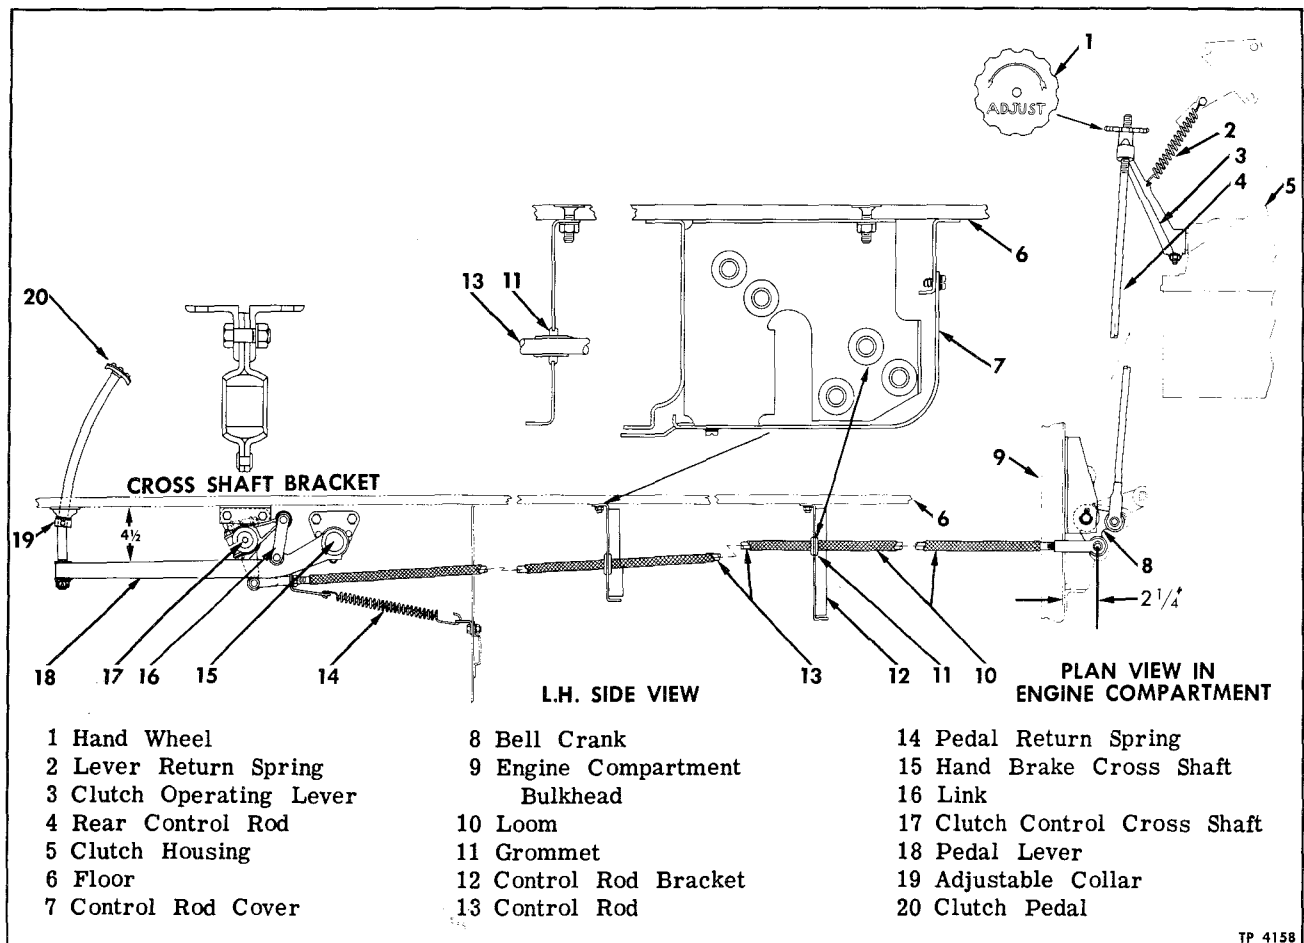
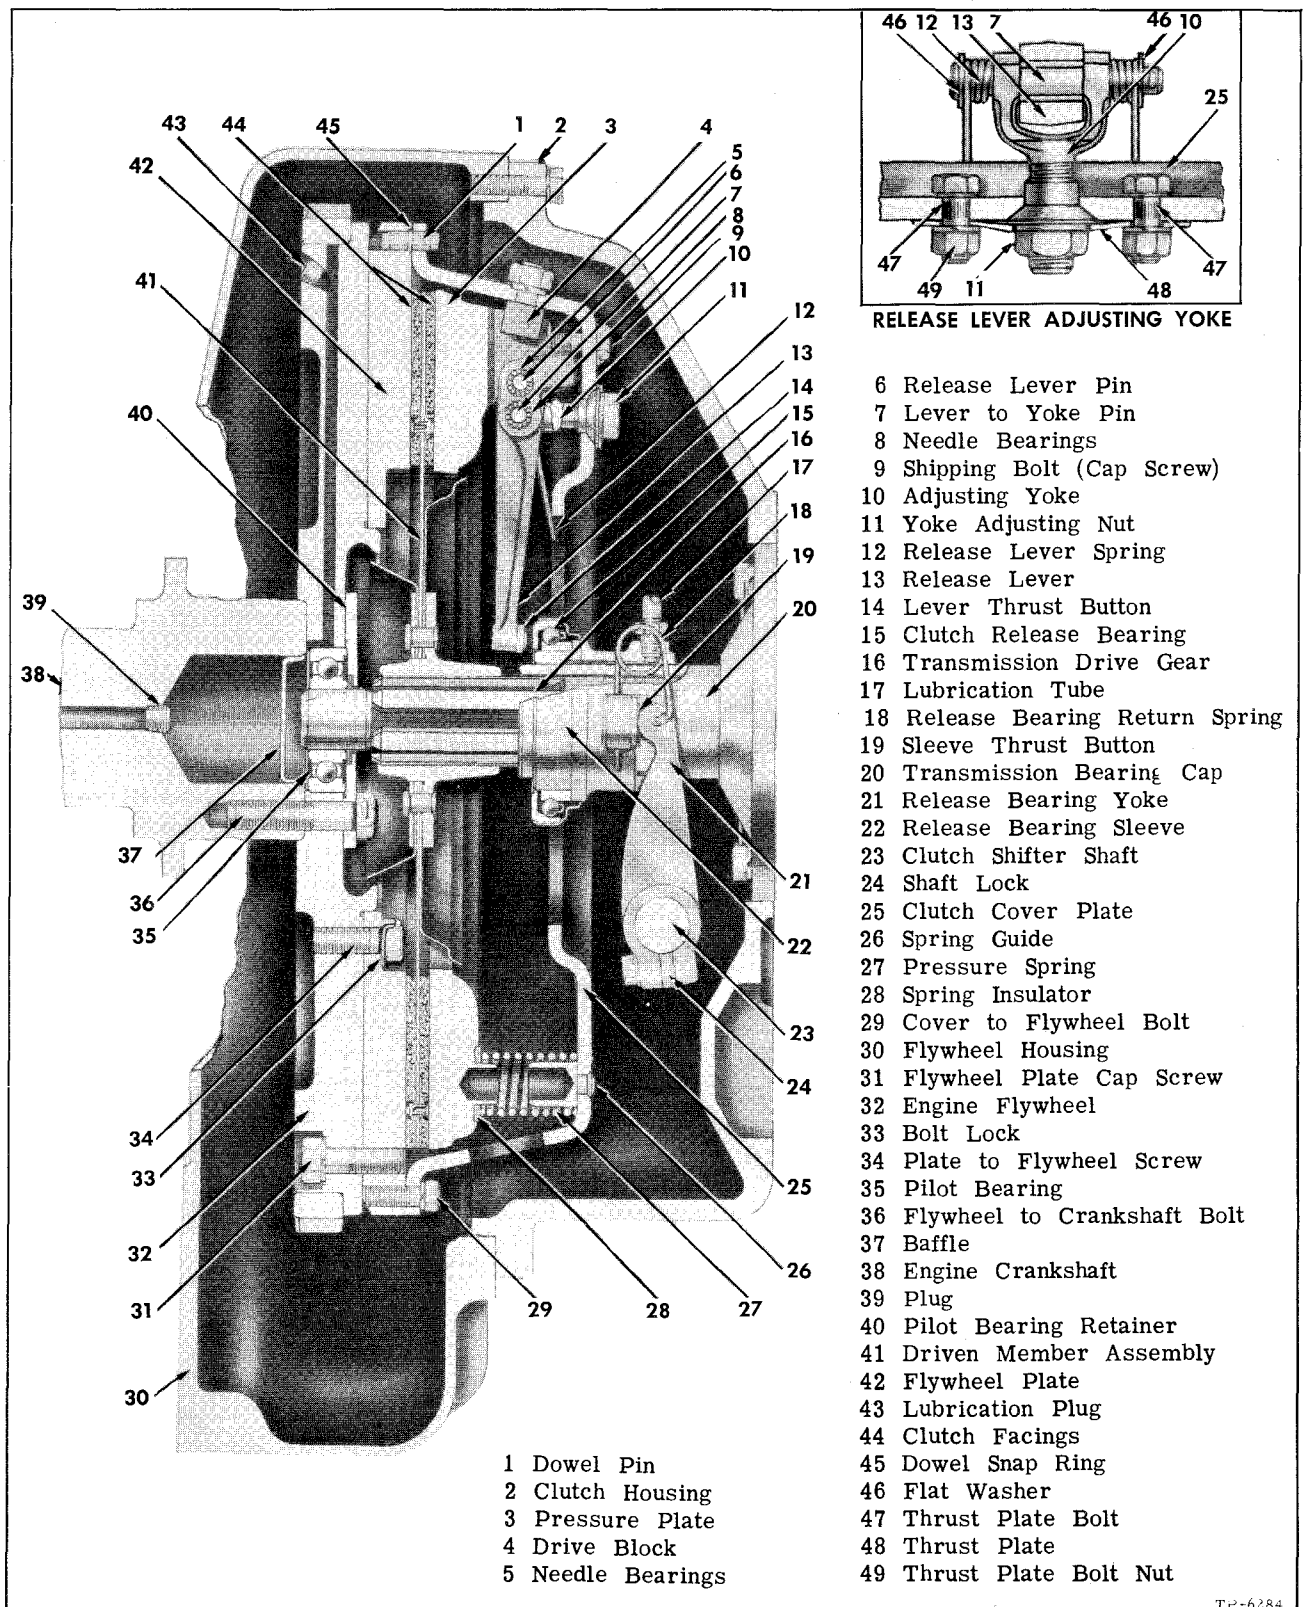

Figure 1—Clutch Control Linkage
Figure 2—Sectional View of Clutch Assembly
Clutch (fig. 2) is single plate dry disc type, manually controlled (disengaged and engaged) by foot-operated pedal and linkage (fig. 1).
(Fig. 1)
(Key Number in Text Refer to Figure 2)
Pedal Free-Travel Adjustment (Fig. 1)
(Key Numbers in Text Refer to Figure 2)
1. Hand pack clutch pilot bearing with lubricant specified in LUBRICATION (SEC. 13). If flywheel has been removed from engine be sure grease baffle (37, fig. 2), is in place before installing flywheel and clutch pilot bearing.
3. Locate bearing retainer (40, fig. 2) against flywheel and install flywheel to crankshaft bolts. Tighten bolts to 150-160 ft. lbs. using torque wrench. Install lock wire through bolt heads.
(Key Numbers in Text Refer to Fig. 2)